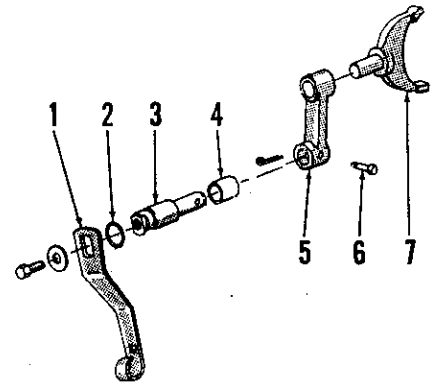

Fig. 311—Exploded view of PTO shift linkage for both single speed and 2-speed PTO models. Refer also to Figs. 309 and 310.
moved only when engine is not running. Refer to Fig. 311 for exploded view of the linkage. After removing front cover as outlined in paragraph 274, the linkage can be removed by removing pin (6), sliding the shaft (3) out of housing, then removing arm (5) and fork (7). Bushing (4) in transmission housing can be renewed if necessary. Install new sealing "O" ring (2),